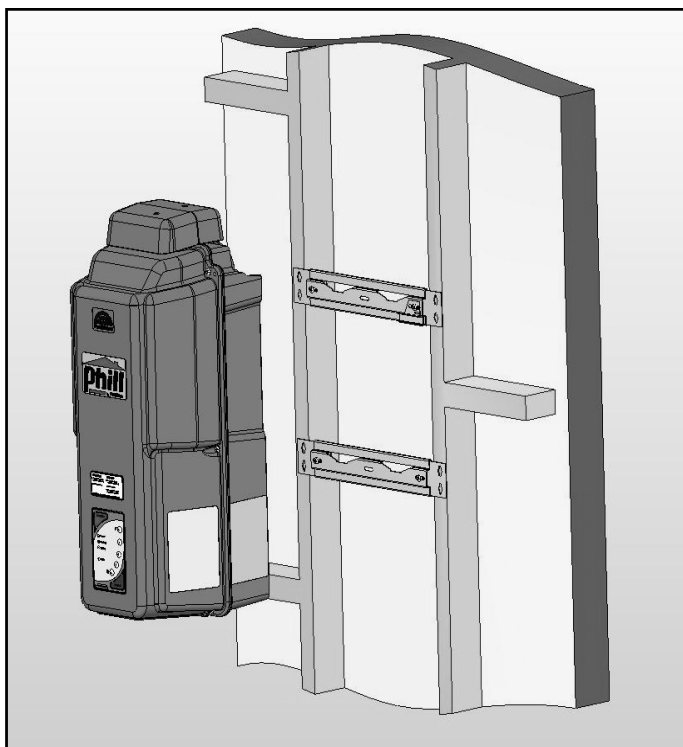
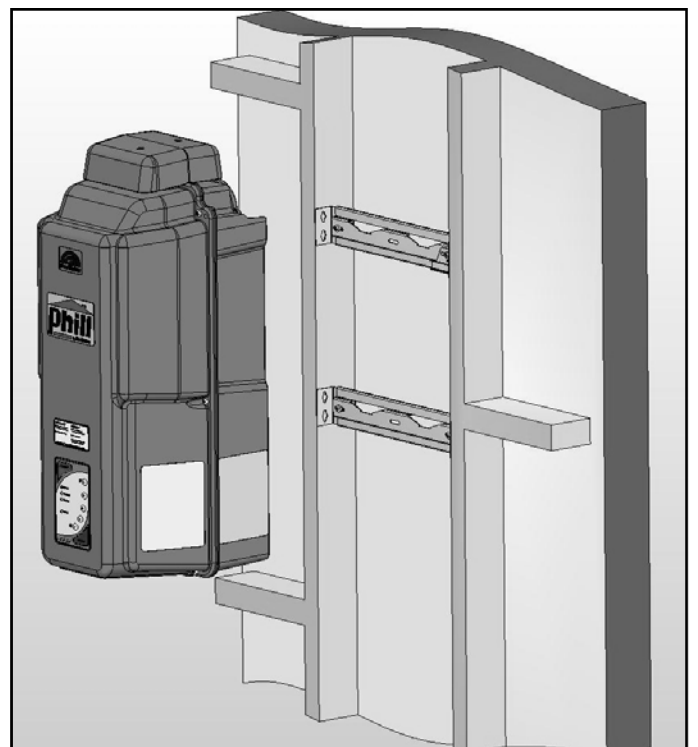

Figure 9 Surface Mounting
Figure 10 Recessed Mounting
2. Remove template and drill slide bracket mounting holes. If rear venting, cut the cooling air venting hole. Use appropriate fasteners and washers to fasten the slide brackets to the mounting structure. Use the angle slide brackets for installation recessed between studs (see Figure 10) and the flat slide brackets for flat surface mounting (see figure 9). **Be sure the brackets are installed square and level.** When installing Phill on a flat surface be sure the brackets are fastened to studs or firmly anchored to the building.